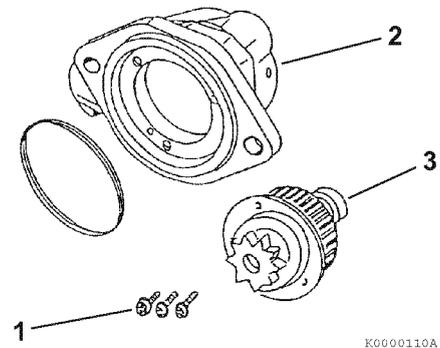

Figure 11-9
- Remove the three M4 bolts (1, Figure 11-9) securing the bearing retainer assembly (2, Figure 11-9) to the gear housing. Remove the bearing retainer assembly from the gear housing.
- Remove the pinion clutch assembly (3, Figure 11-9) from the bearing retainer assembly.